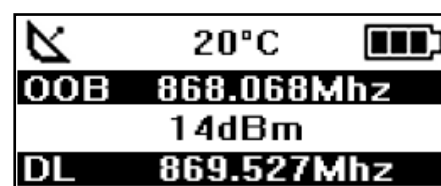

Figure 10 : OOB
- 1 OOB emission, if the product received a downlink (Figure 10)